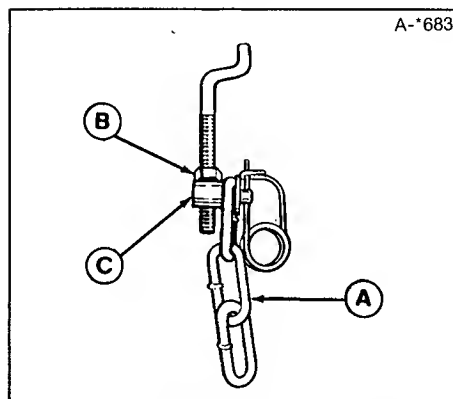

Figure 45. Lift Assembly - Large Lift Lever
3. The measurement should be 6". To adjust, disconnect trunnion (figure 45) from chain. Loosen the nut (B) and turn the trunnion to raise or lower mower. Tighten nut when measurement is correct.
In the next step, refer to figure 43 if small lift lever is used or figure 45 if large lift lever is used.
3. To adjust, disconnect clevis (E, figure 43) or trunnion (C, figure 45) from chain. Loosen the nut, and turn clevis or trunnion to raise or lower mower. Tighten nut when measurement is correct.